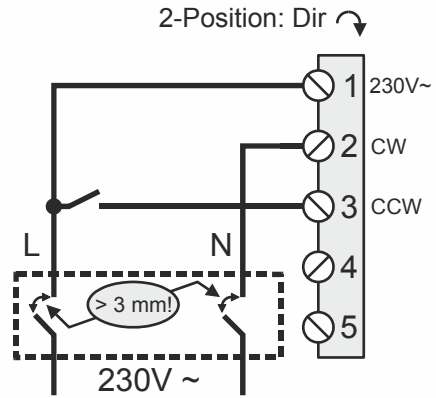

Fig. 10. N05230-2POS/N10230-2POS (2-position mode)
**NOTE:** In the case of 230 V (see Fig. 10), a circuit breaker with contacts having a gap of minimum 3 mm must be available in order to guarantee safe installation.